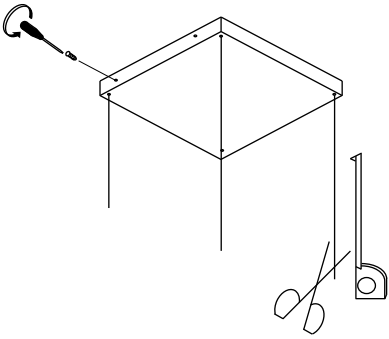

Fig 7
5. Fix the cover to the ceiling bracket and cut string to required length (Fig 7).